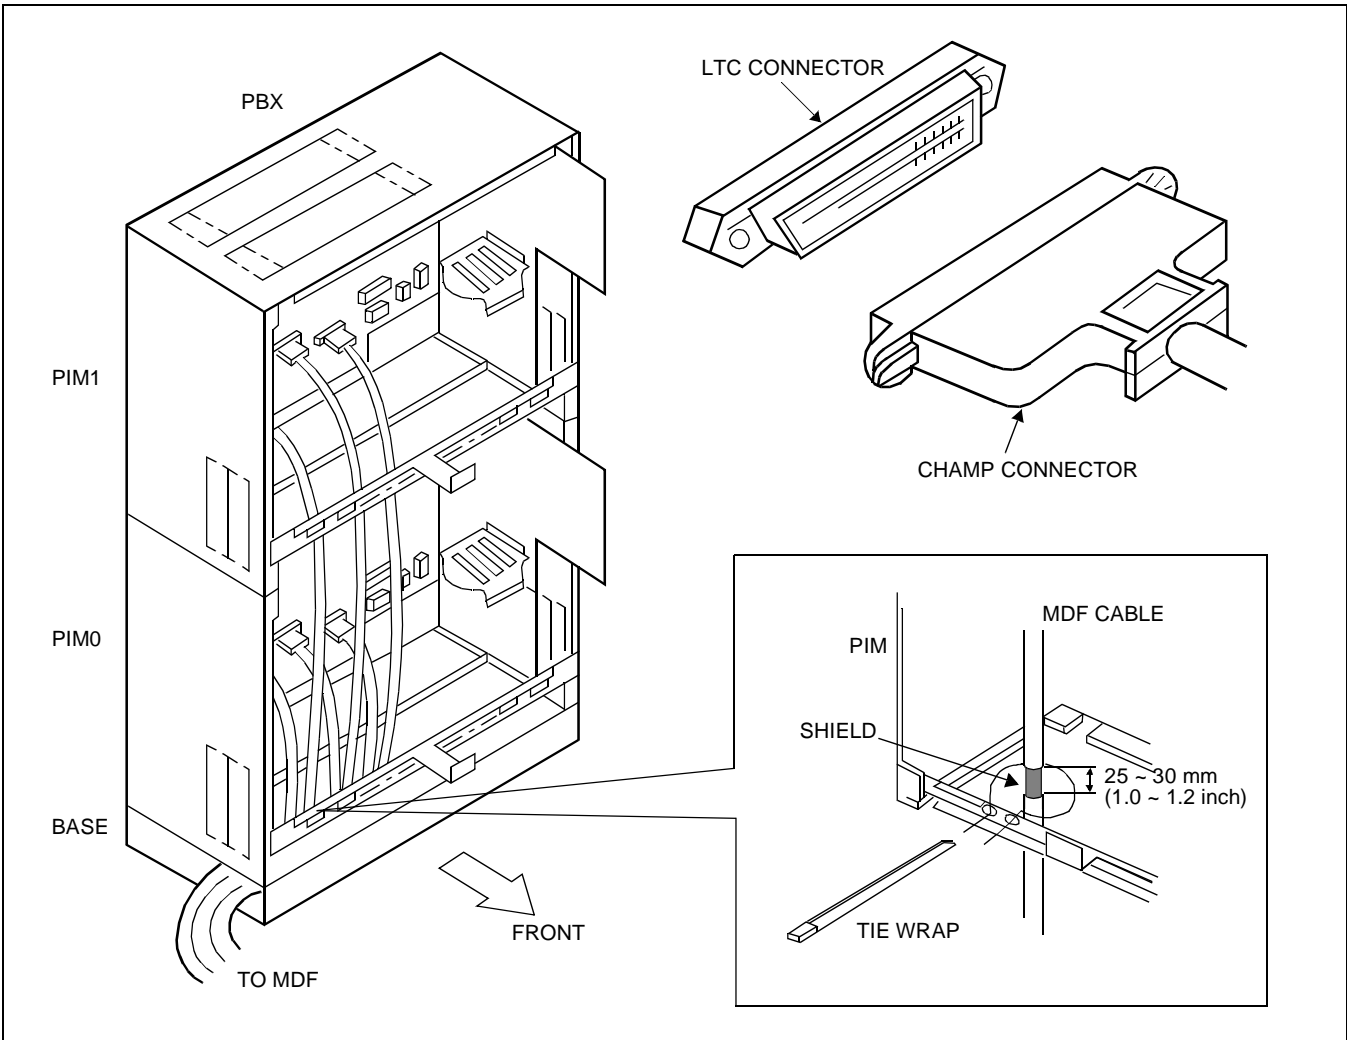

Figure 006-2 Cable Running to the External MDF (1 of 2)
- (1) When not using the cable hole of the PIM
- (b) Connect the champ connector of each MDF cable to an LTC connector located on a PIM using the screws provided, as shown in Figure 006-2.
- (c) Pare the sheath of each MDF cable and secure the shield to the front bracket on the PIM using tie wraps, as shown in Figure 006-2.